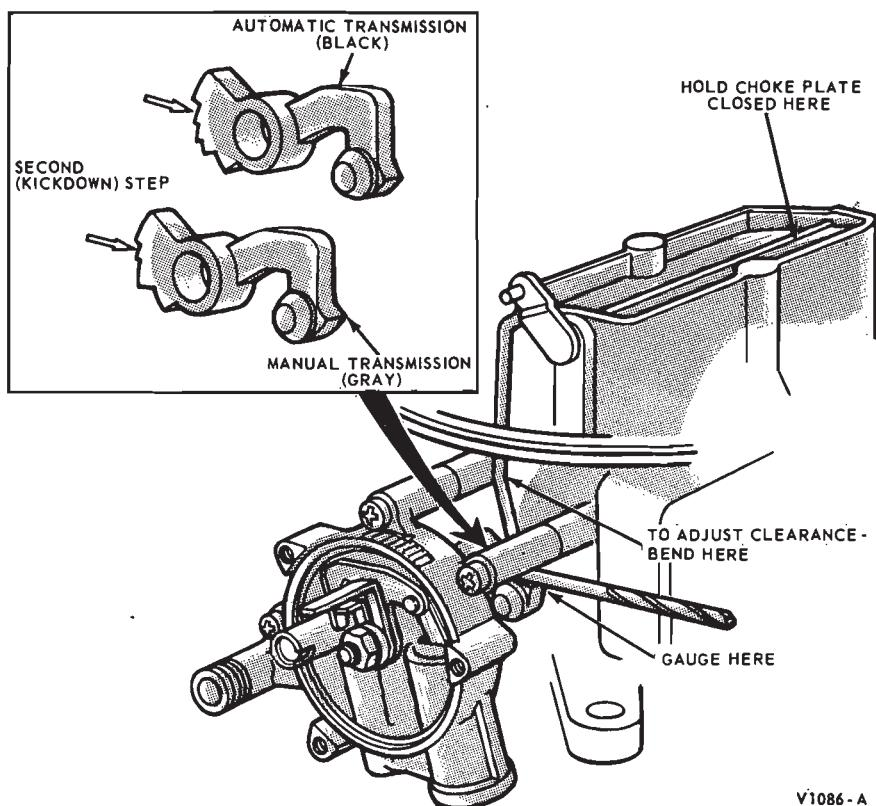

FIG. 4—Fast Idle Cam Adjustment
and the choke housing mounting post (Fig. 4). If the setting is not to specification, straighten or bend the choke rod to obtain the specified clearance.
6. Connect a tachometer to the engine. With the engine operating and temperature stabilized, set the fast idle screw on the kickdown or second high step of the fast idle cam (Fig. 4).